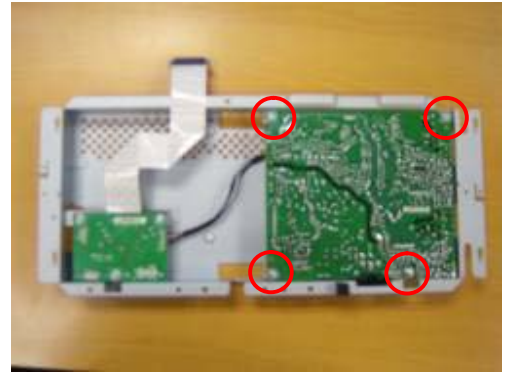

Fig.14
a. Unscrew the 4 screws to remove power board as Fig.14